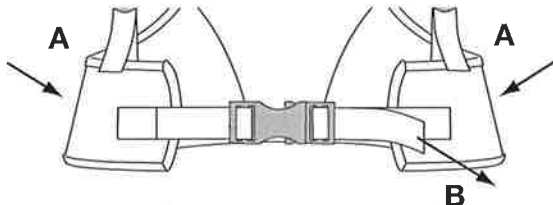
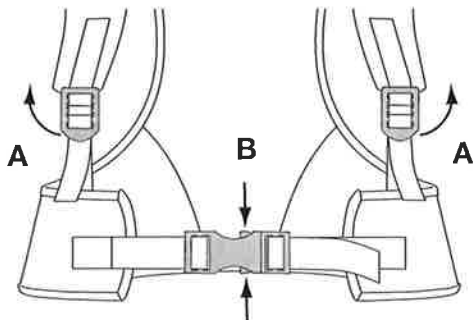

Fig. 18
Fig. 19
**NOTE:** Make sure the weight of the unit is supported on the hips by the waist support (Fig. 18, A).
3. If weight is not on hips, loosen the shoulder supports (Fig. 19, A) and pull the waist support handle (Fig. 18, B) to tighten. Adjust until the unit's weight rests on the hips.
1. To release the shoulder supports, pull up on bottom tab of the shoulder support buckles (Fig. 19, A).
2. Squeeze the top and bottom of the waist support clips to release the waist support (Fig. 19, B).